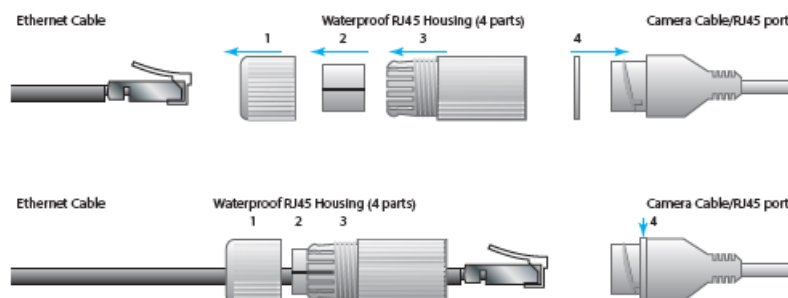

Fig. 2.4
- Install the four-piece waterproof housing kit that came with the camera. Three pieces (1, 2, and 3) are installed over the Ethernet cable, while the fourth piece, the thin washer (4), is inserted over the RJ45 port of the camera cable, see Fig. 2.4.